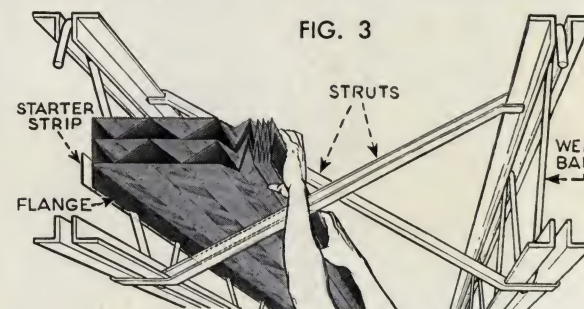

FIG. 3
1) At the cross-bridging, *fully* expand about *half* the insulation, up to the intersection of the struts. *See Fig. 3.*